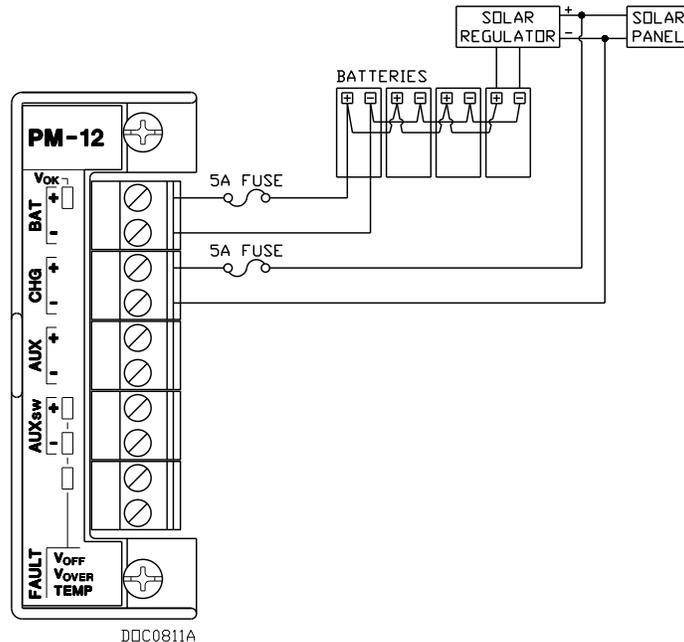

Figure 3-12. 12 Volt dc Power Supply and CHG+ / CHG– Wiring
8. If you are monitoring an external charge voltage (12 Volts dc Power Input Module only), wire the CHG+ and CHG– terminal block connector. Refer to *Figure 3-12*.